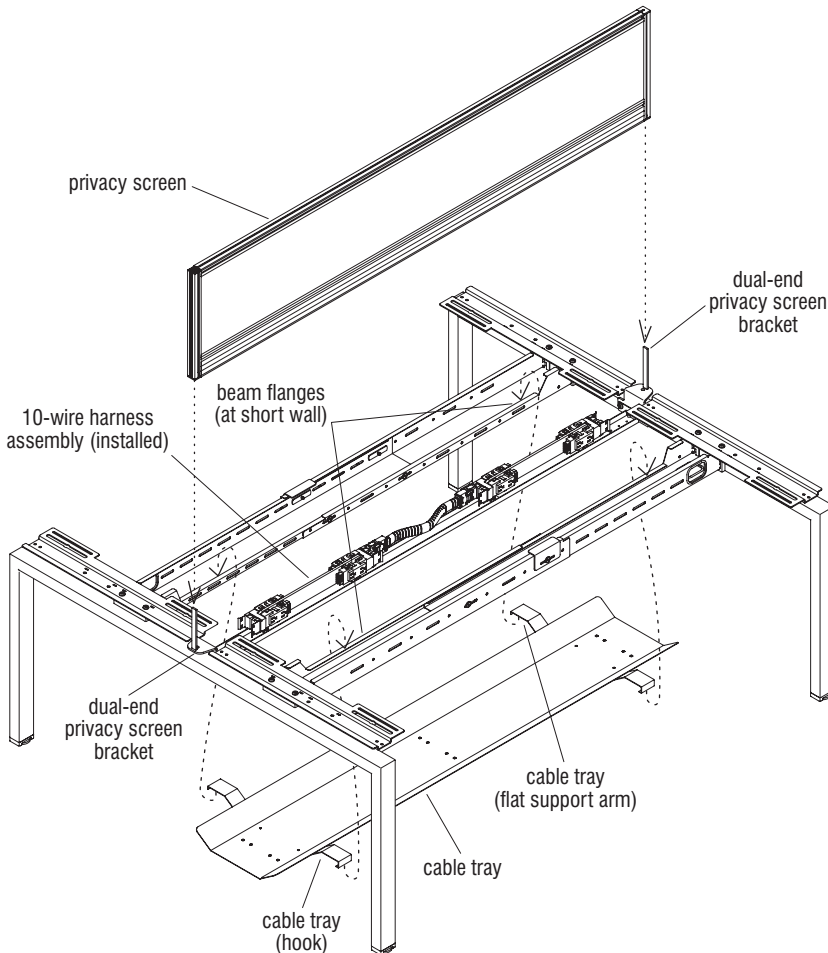

Figure 3 - Dual-Sided Stand-Alone Benching with 10-Wire Harness/Cable Tray & Privacy Screen
6. Position the "cable tray" under the installed 10-wire harness assembly as illustrated. Lift the tray up evenly and rotate the cable tray bracket with hooks side up first so the arms and hooks position over the short-wall side of one beam. Then rotate the other side up and slide the unit back so the flat support arms can then also rest on the other beam's short-wall beam flanges also (Figure 3).
7. To gain access under the 10-wire harness, the cable tray can be slid back in reverse order of the instructions above, then swung down to hang by the support arms with hooks (Figure 3).
1. If dual-end privacy screen brackets were installed to the inside of each end leg, a privacy screen is installed to the unit by positioning the privacy screen over the bayonets of the brackets, and evenly pressing the privacy screen down. Take care to keep the privacy screen level when sliding the unit down to avoid binding the screen as it moves down (Figure 3).